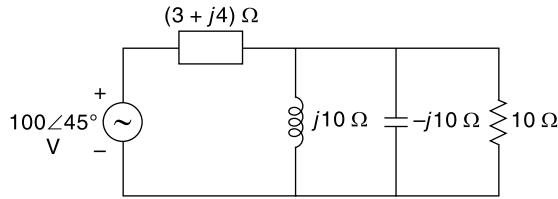

Fig. 6.6 Circuit of Ex. 6.6
6.6 Find the current through the 10Ω resistor using Thevenin's theorem in the network shown in Fig. 6.6.
Removing the 10 Ω resistor, the open circuit voltage V_{oc} can be found out from Fig. 6.6(a).